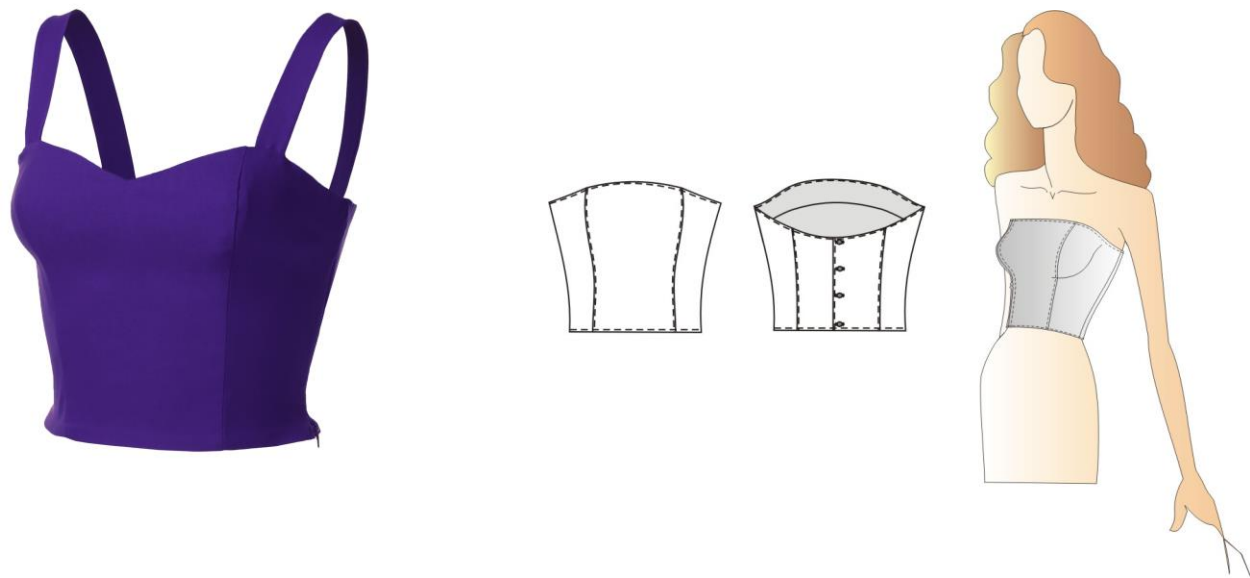

Figura 25 – Modelos de Bustiê.
14.1 - *BUSTIÊ* TOMARA-QUE-CAIA OU COM ALÇA (FIGURA 25)